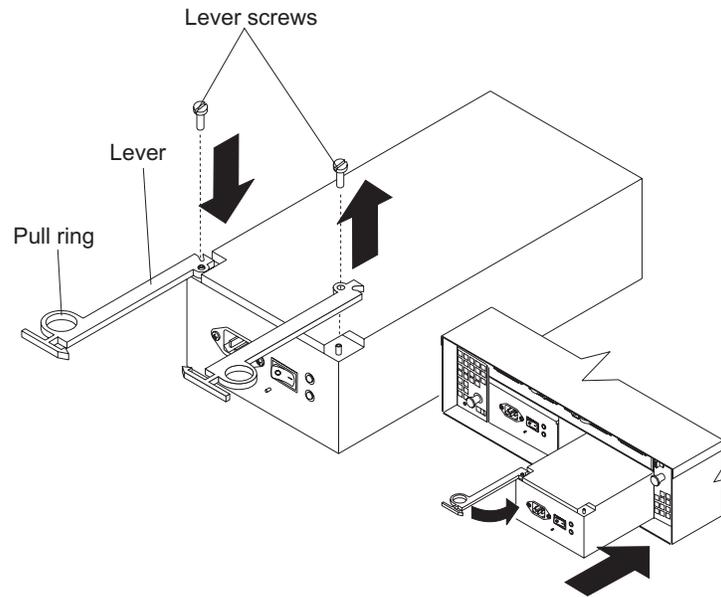

Figure 40. Moving the power supply lever and replacing the failed hot-swap power supply
Note: Before you replace the failed power supply, ensure that the new power supply lever is attached to the side of the power supply that faces the middle of the expansion unit. If it is not, remove the lever screw, flip the lever over, and tighten the screw on the opposite side as shown in Figure 40 on page 75.
- a. Slide the power supply into the expansion unit. Be sure that the lever is pulled straight out as you slide the power supply into the expansion unit (see Figure 40).